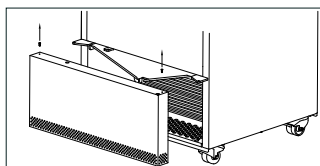

fig. 11
2. Remove the lower panel from beneath the door by loosening the two screws. Use a 2mm Hexagon key. See fig 11
The ventilation grille, the condenser, the compressor and the compressor compartment must also be kept free of dust and dirt. Clean it with a vacuum cleaner regularly. Remove the lower panel from beneath the door by loosening the two screws (see fig 11)